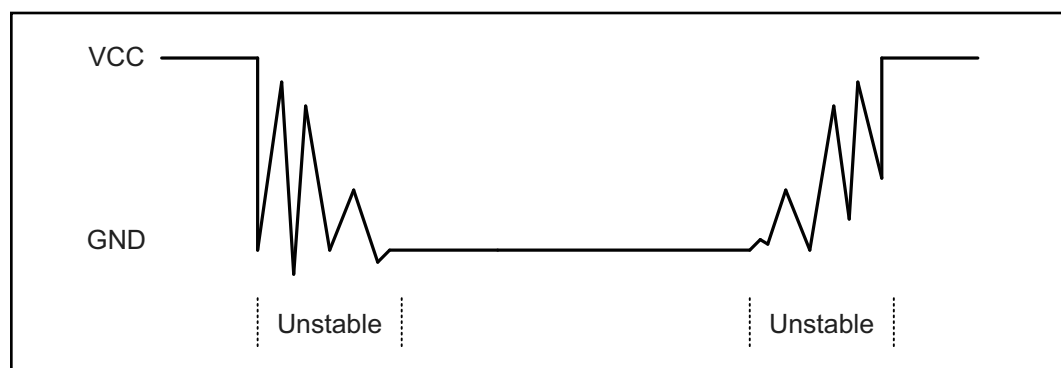

**Figure 9. Keyboard Debounce**
2. To see if any key is pressed, the columns are scanned over and over in an infinite loop until one of them has a 0 on it. Remember that the output latches connected to rows still have their initial zeros (provided in stage 1), making them grounded. After the key press detection, the microcontroller waits 20 ms for the bounce and then scans the columns again. This serves two functions: (a) it ensures that the first key press detection was not an erroneous one due to a spike noise, and (b) the 20-ms delay prevents the same key press from being interpreted as a multiple key press. Look at Figure 9. If after the 20-ms delay the key is still pressed, it goes to the next stage to detect which row it belongs to; otherwise, it goes back into the loop to detect a real key press.